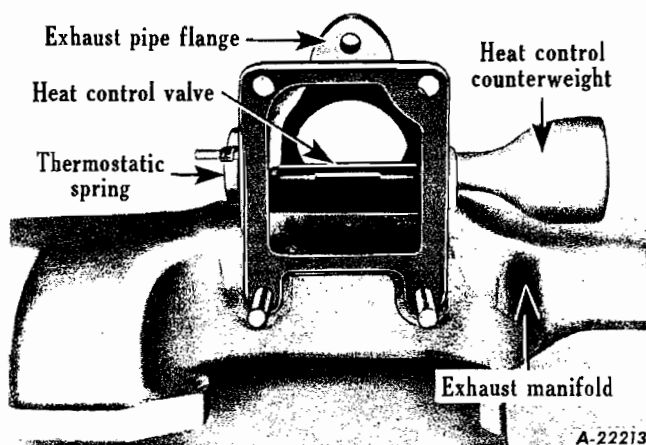

Fig. 43
2. Located in the exhaust manifold, in the center, is the manifold heat control unit (Fig. 43).